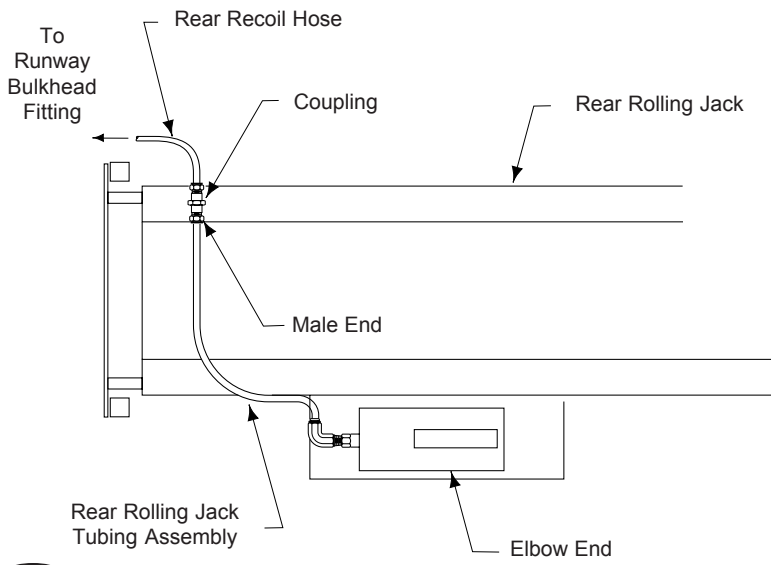

Fig. 32 REAR ROLLING JACK TO RECOIL AIR HOSE
- C. Connect one end of provided rear recoil hose to bulkhead T-fitting at midpoint of runway. Connect other end of recoil hose to coupling welded on rolling jack, Fig. 32 and 34.
- D. Connect elbow end of rolling jack tubing assembly to air pump and male end to the coupling, Fig. 32 and 34.